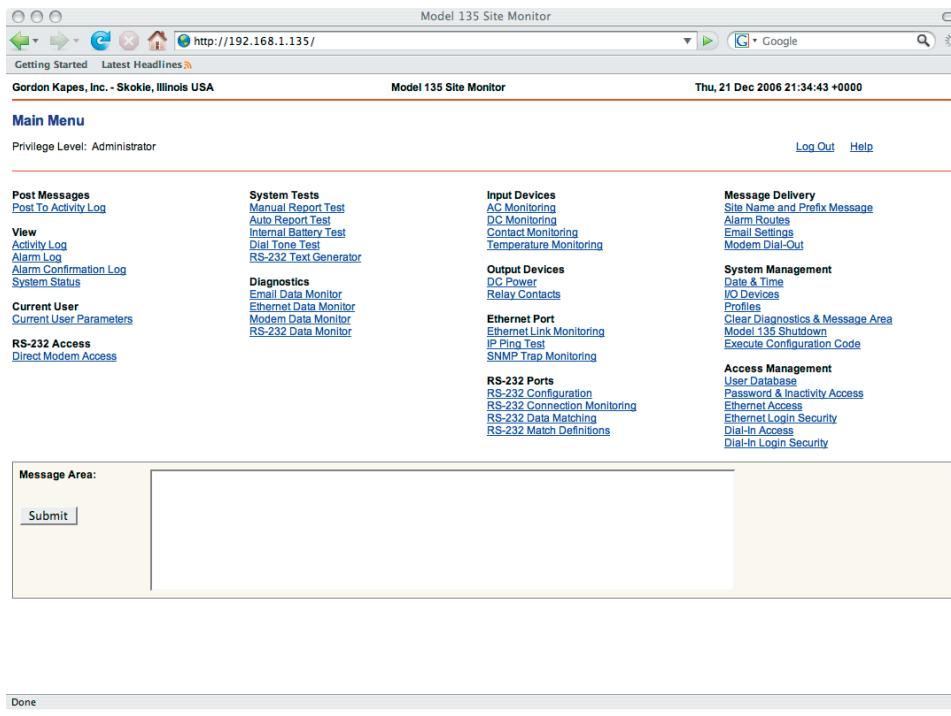
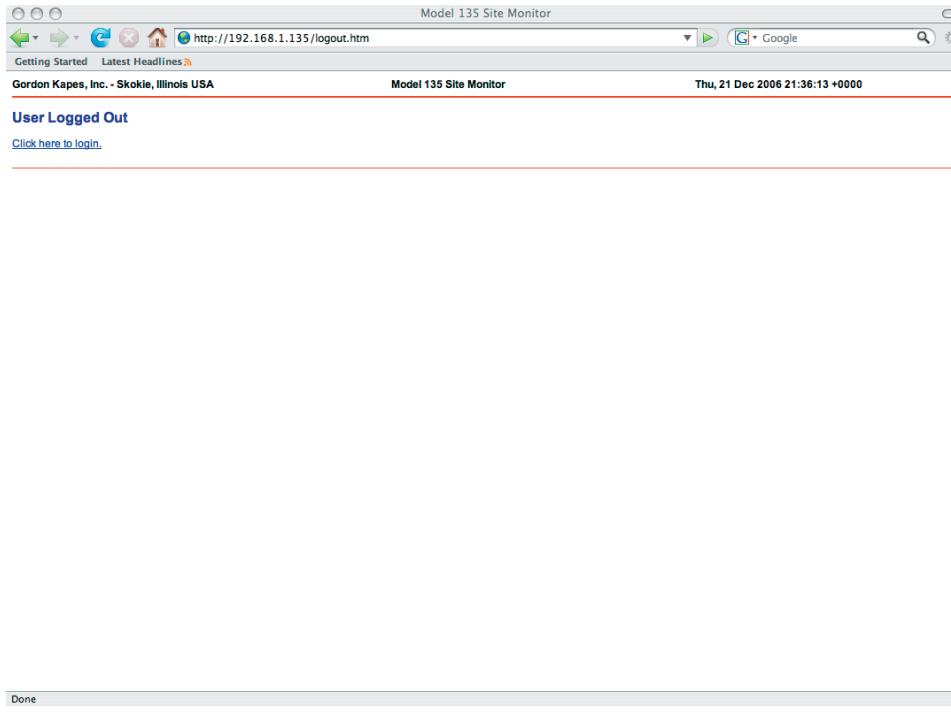

Figure 3-8. Model 135 Main Menu Screen
Figure 3-9. Model 135 User Logged Out Screen
Step 7: A successful login will bring you to the Main Menu of the Model 135 Site Monitor Application Program (Figure 3-8). This Main Menu will allow you to navigate throughout the Model 135 Site Monitor menu system allowing you to configure the operating parameters of the Model 135 Site Monitor.
Step 8: Select Log Out at any time to disconnect from the Model 135 Site Monitor (Figure 3-8 and Figure 3-9).